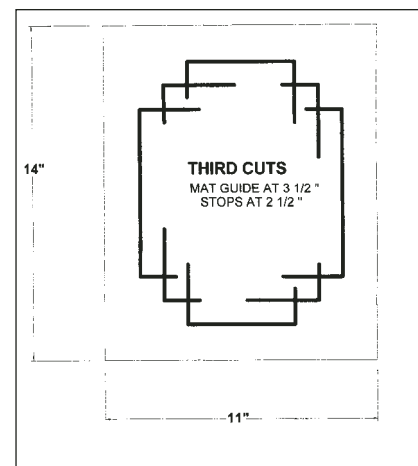

Figure 4
- Reset the stops to 2½" and the mat guide to 3½" and repeat the above “skip” steps. The mat will look like what you see in Figure 4, and the fallout will come out in one piece.